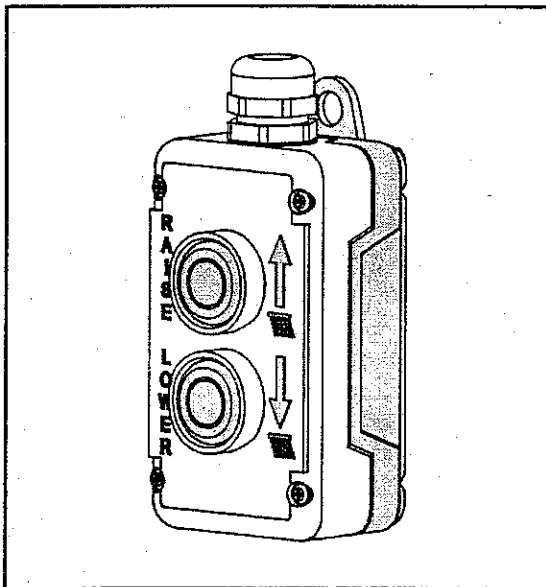
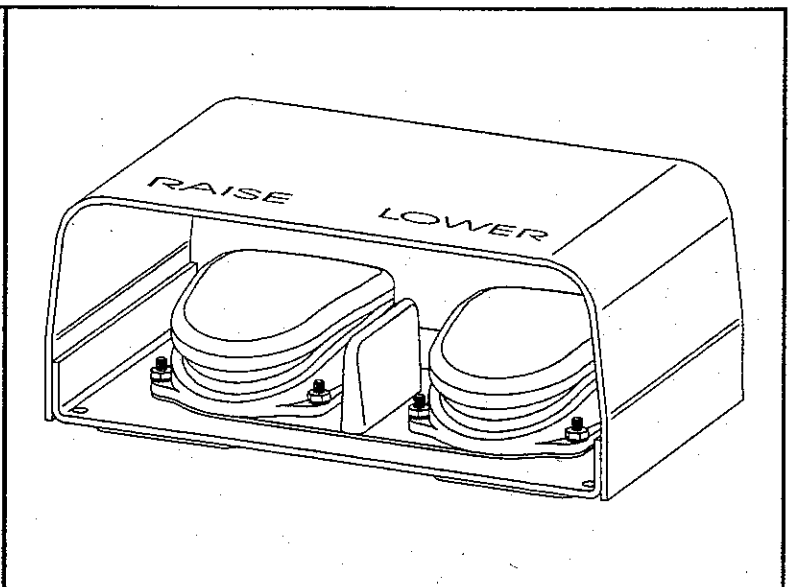

Figure 8 - Hand Control Operation
Figure 9 - Foot Control Operation
4. Locate the lift's hand control (See Figure 8) and depress the "RAISE" button to raise the lift to its maximum raised height. In the case of a foot control (See Figure 9), depress the "RAISE" pedal to raise the lift.
2. As shown in Figures 8 and 9, depress the "Raise" button or pedal to raise the platform to a convenient position. CONTINUOUSLY WATCH the condition of the load as the platform is raised. If the load appears to be shifting STOP, lower the platform and adjust the load.
2. Depress the "LOWER" button or pedal (see Figures 8 and 9) to lower the lift platform. CONTINUOUSLY WATCH the condition of the load as the platform is lowering. If the load appears to be shifting, STOP and adjust the load.